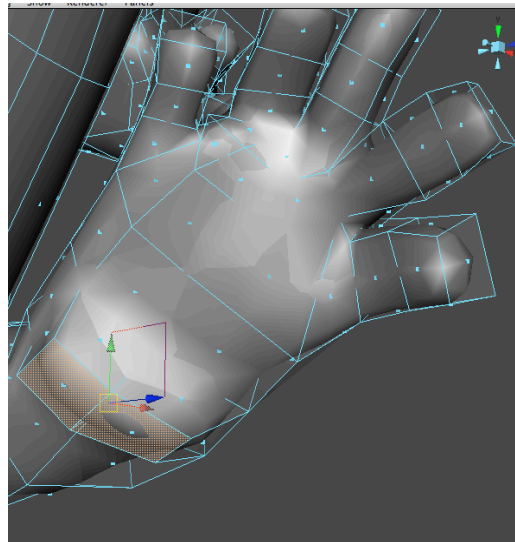

Figure 50: Two faces on the bottom are extruded to form a heel.
14. To add geometry for a heel, extrude two of the faces on the inside/bottom of the foot as shown in figure 50. To see a version of the scene so far open the mouse_v1_19.ma scene.